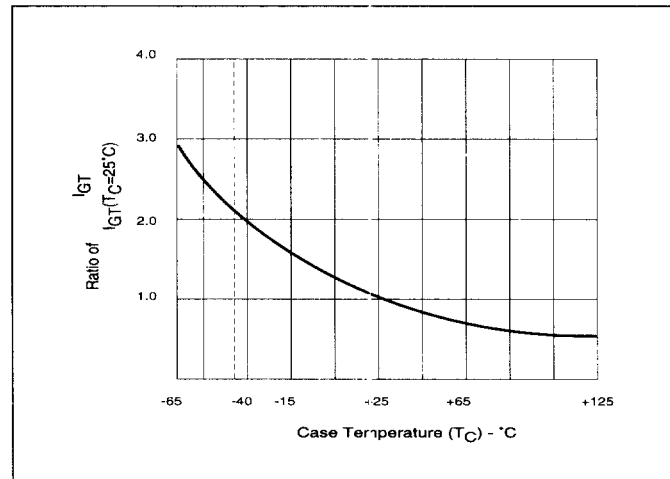

Figure 2.11 Normalized DC Gate Trigger Current for All Quadrants vs Case Temperature
- (7) See Figure 2.11 for I_{GT} vs T_C .